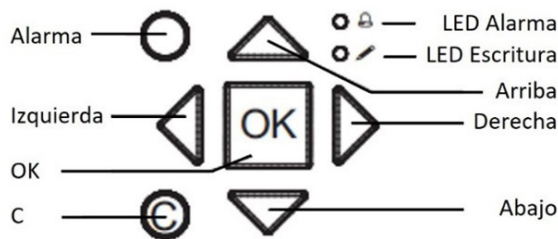

Figure 5. Remote control button panel.
- Navigation between different screens and menus using 7 buttons (see figure 5).